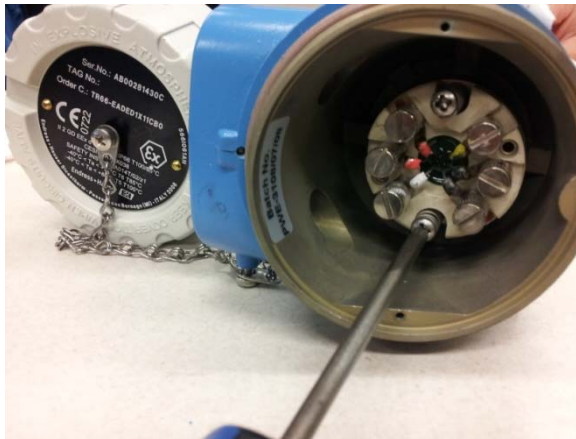

Figure 2-4. Removal of the RTD Terminal Block
4. Unscrew the RTD terminal block from the connection head (Figure 2-4).